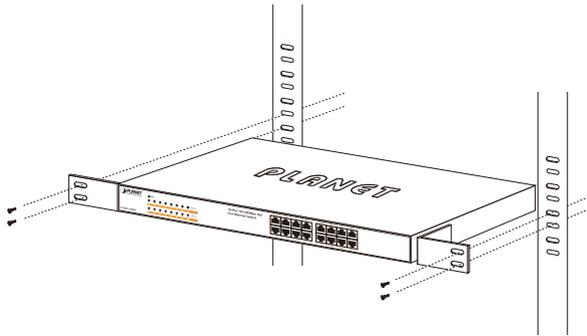

Figure 3-3: Mounting the PoE Fast Ethernet Switch in a Rack
Step 5: After the brackets are attached to the Switch, use suitable screws to securely attach the brackets to the rack, as shown in Figure 3-3.